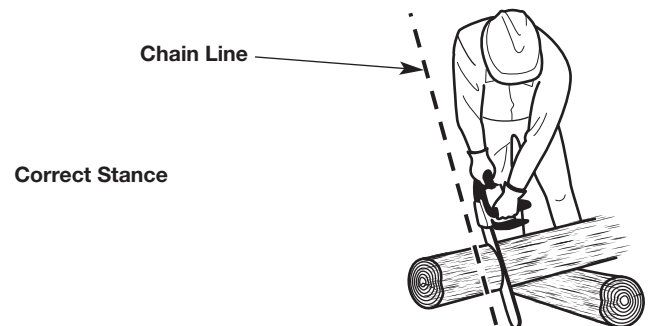
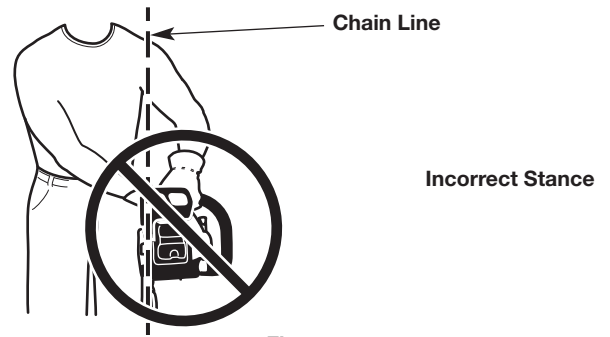

Fig. 10
Fig. 11
**WARNING:** Always use the hand placements specified below whether the operator is left-handed or right-handed. This will help keep the operator slightly to the left of the unit and out of the direct line of the saw chain if kickback occurs (Fig. 10 and Fig. 11). Always keep all body parts to the left of the chain line.